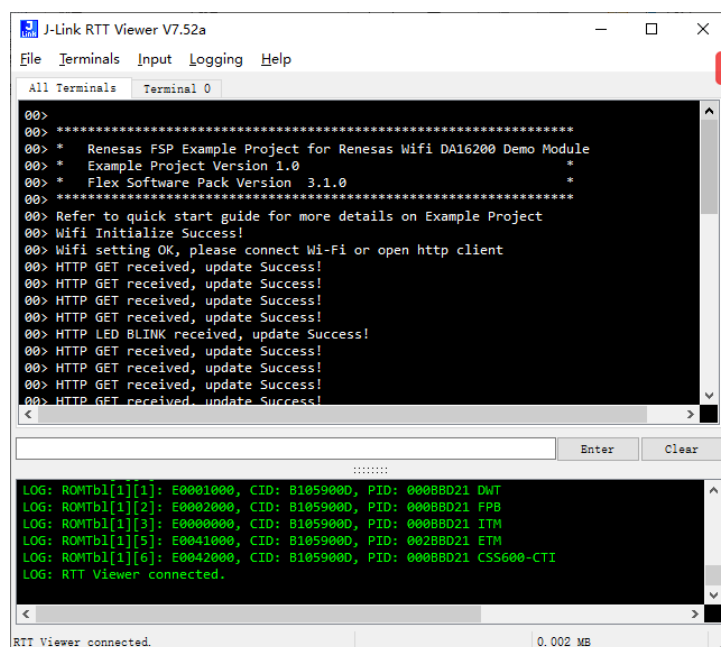

Figure 5. Wifi Operation View
- After **Wifi setting OK**, please connect Wi-Fi or open http client appears in Figure 5, find **Renesas_Wifi** in the wireless network and enter the network security key of **12345678**, finishing the connection between PC or smartphone with this solution kit.